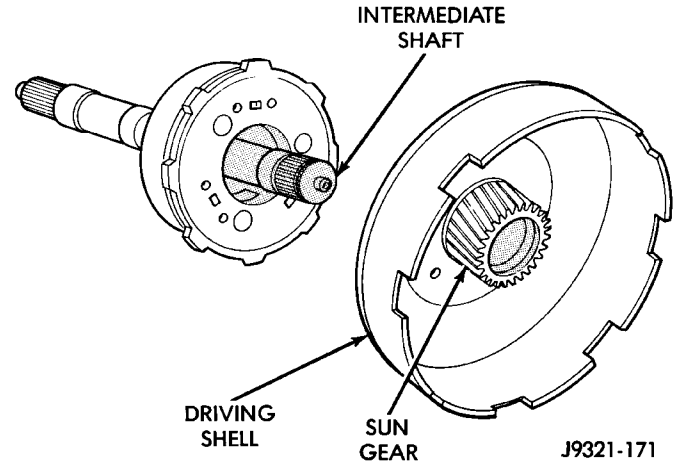

Fig. 177 Sun Gear And Driving Shell Removal
(5) Remove sun gear and driving shell as assembly (Fig. 177).